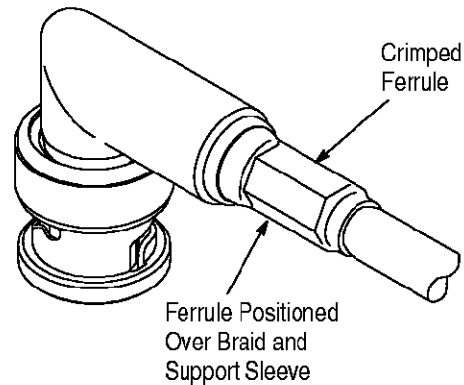

Figure 5
4. Slide ferrule forward over braid and support sleeve. Crimp ferrule with the hand tool. See Figure 5.